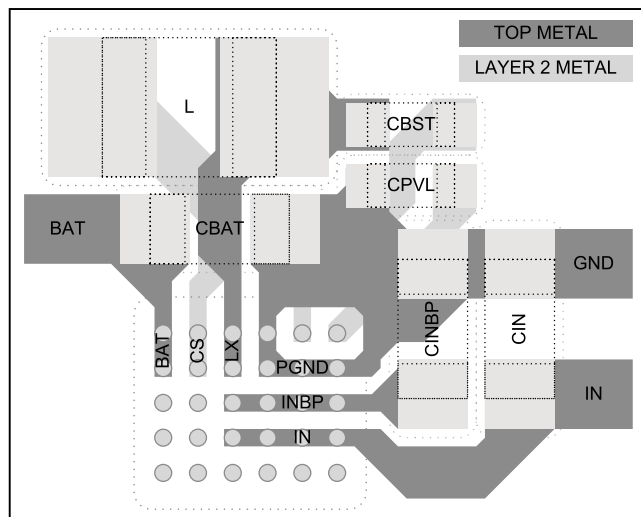
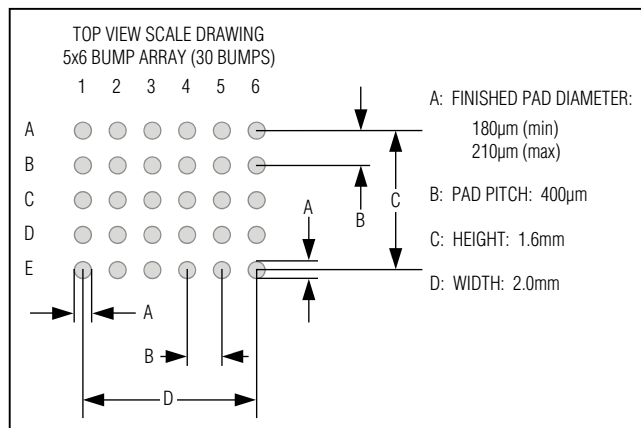
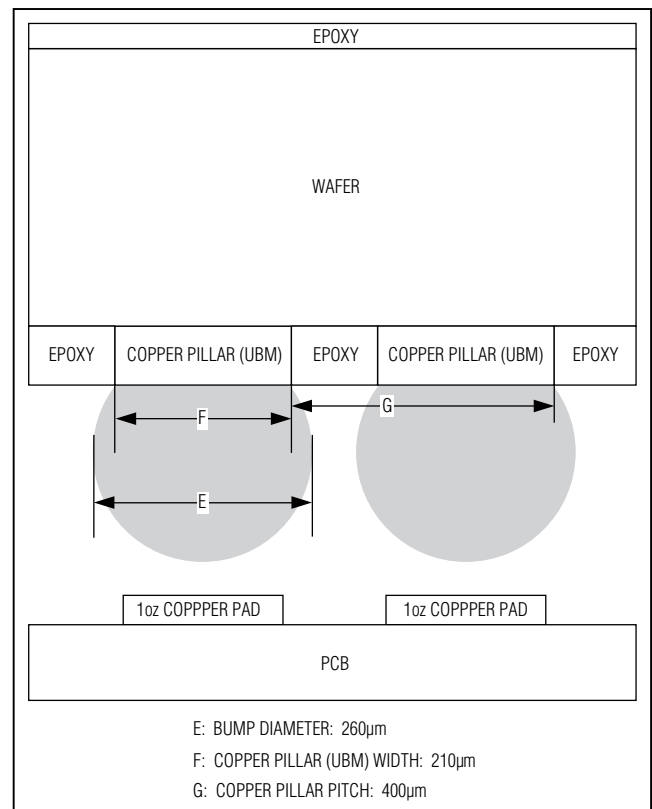
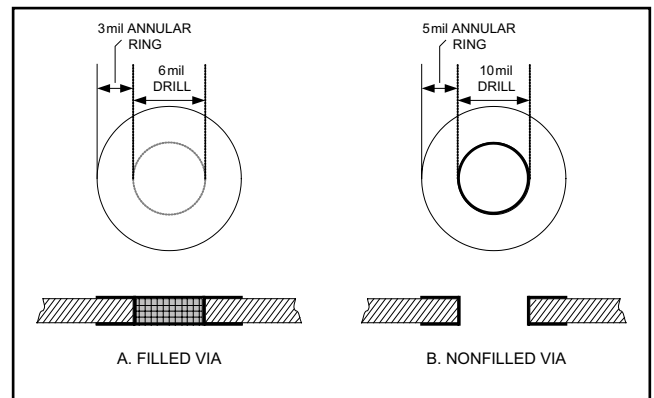

Figure 4. Power PCB Layout Example
Figure 5. Recommended Land Pattern
Figure 6. Bump Cross Section and Copper Pillar Detail
Figure 8. Via Details
The MAX8900\_ wafer-level package (WLP) and bump configuration allows for a small-size, low-cost PCB design. Figure 4 shows that the 30 bumps on the MAX8900\_ WLP are combined into 18 functional nodes. The bump configuration places all like nodes adjacent to each other to minimize the area required for routing. The bump configuration also allows for a layout that does not use any vias within the WLP bump matrix (i.e., no micro vias). To utilize this no-via layout,  $\overline{CEN}$  is left unconnected and the STAT3 pin is not used (2-pin status version). Note that although layouts without micro vias are possible, this EV kit uses filled micro vias that are on the WLP pads of the MAX8900A (A2, A5, A6, B2, C2, D2, and E6). These filled micro vias on pads were used to showcase the small solution size.
Figure 5 shows the recommended land pattern for the MAX8900\_. Figure 6 shows the bump cross section of the MAX8900\_ under-bump metal (UBM). The diameter of each pad in the land pattern is close to the diameter of the UBM. This land pattern to UBM relationship is important to get proper reflow of each solder bump. Note that although layouts without micro vias are possible, this EV kit uses filled micro vias that are on the WLP pads of the MAX8900A (A2, A5, A6, B2, C2, D2, and E6). These filled micro vias on pads were used to showcase the small solution size.
Careful printed circuit layout is important for minimizing ground bounce and noise. Figure 4 is an example layout of the critical power components for the MAX8900\_. The arrangement of the components that are not shown in Figure 4 is less critical. Figures 8–10 show the entire layout of the MAX8900A EV kit and Table 6 shows the EV kit construction attributes. To ensure a successful layout for the MAX8900A, use the following list of guidelines and refer to Application Note 1891: *Wafer-Level Packaging (WLP) and Its Applications*, which is available at [www.maximintegrated.com](http://www.maximintegrated.com).
- 5) In Figure 4, the CS node is connected to the second layer of metal with vias. Use low-impedance vias capable of handling 1.5A of current. Also, keep the routing inductor current path on layer 2 just underneath the inductor current path on layer 1 to minimize impedance.
- 6) Both CBST and CPVL deliver current pulses for the MAX8900\_'s MOSFET drivers. These components should be placed as shown in Figure 4 to minimize parasitic impedance.
In Figure 4, many of the top-layer bump pads are connected together in top metal. When connecting bumps together with top-layer metal, the solder mask should define the pads from 180 $\mu$ m to 210 $\mu$ m, as shown in Figure 5. When using solder-mask defined pads, double-
VIA UNDER WLP:	6 mil drill and 3 mil annular ring on top and bottom layers, filled via (Figure 8)
VIA ON REMAINING AREA OF PCB:	10 mil drill and 5 mil annular ring on top and bottom layers (Figure 8)